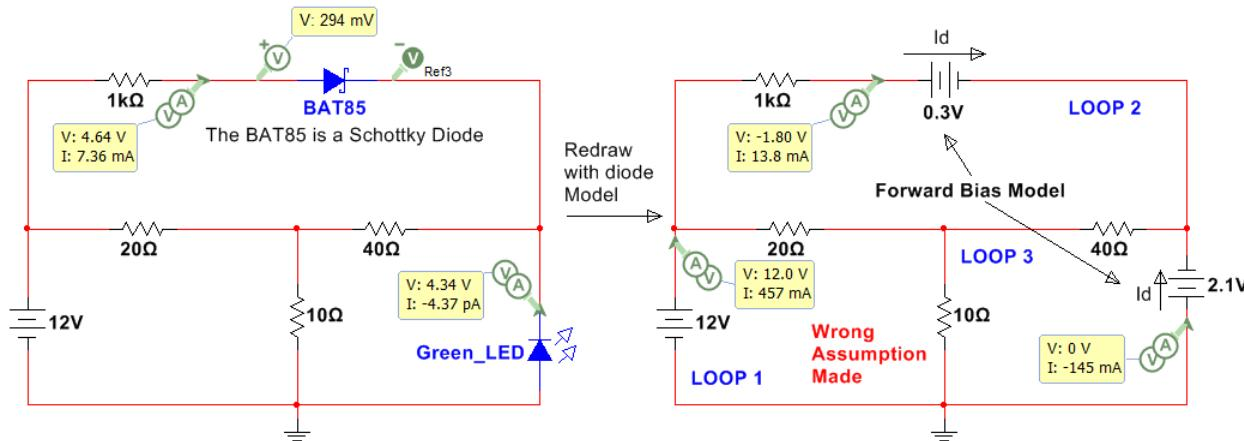

Figure 6.9: Circuit for Example 6.5 with the wrong assumptions made.
Example 6.5) Follow the DC Diode Analysis process to solve the following left circuit in Figure 6.9.
Step 1) Assume Both diodes are forward biased (1 of 4 possibilities). Model is shown in Figure 6.9 (Right).
$\rightarrow I_1 = 457.4 \text{ mA}$, $I_2 = 13.8 \text{ mA}$, $I_3 = 144.5 \text{ mA}$. (These values are verified in Multisim in the right circuit of Figure 6.9)